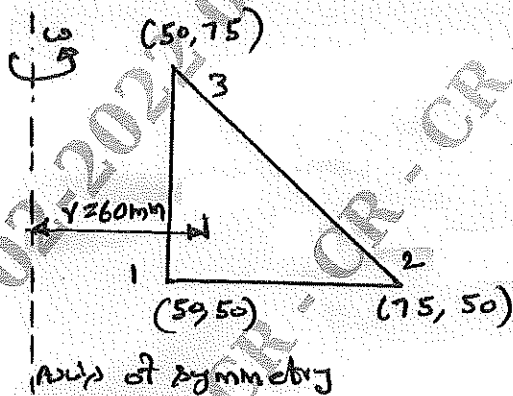

Fig.Q9(b)
b. For the element of an axisymmetric body rotating with a constant angular velocity $w = 1000 \text{ rev/min}$ as shown in Fig.Q9(b), determine the body force vector. Include the weight of the material, where the specific density is 7850 kg/m^3 .